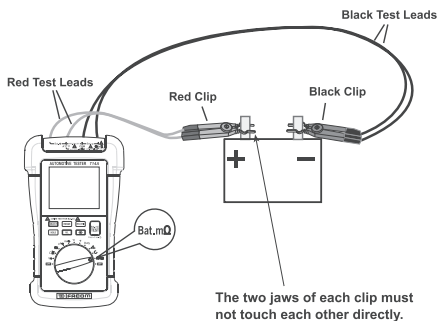

figure 8
2. See Figure 8, insert the plugs of the two red test leads into the two "**Bat.**" terminals and the plugs of the two black test leads into the two "**Bat.**" terminals.
3. Remove the oxide layer on the surface of the battery terminals. Clip the red clip to the battery's positive terminal, and clip the black clip to the battery's negative terminal (Figure 8). Note: For accurate measurement, the two jaws of each clip must not touch each other directly (Figure 8).